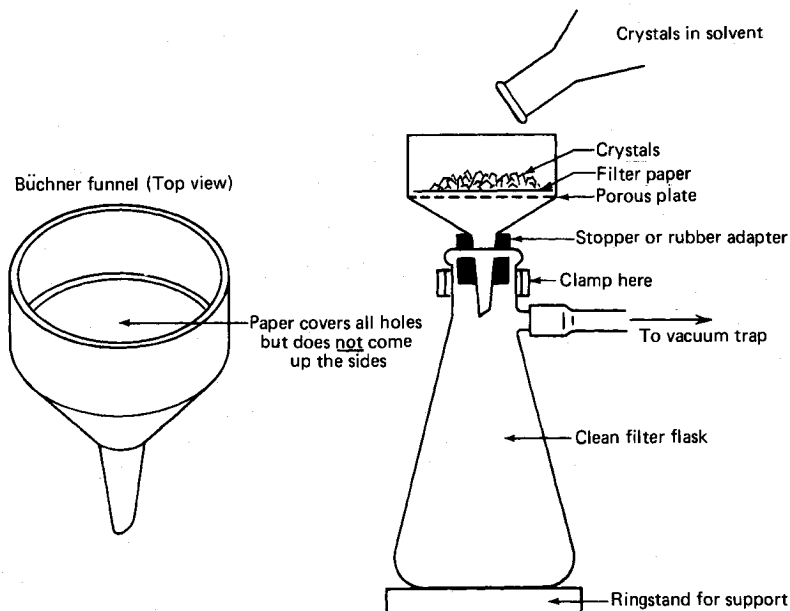

Fig. 46 The Büchner funnel at home and at work.
The **Büchner funnel** (Fig. 46) is used primarily for separating crystals of product from the liquid above them. If you have been *boiling your recrystallization solvents dry*, you should be *horsewhipped* and forced to reread these sections on recrystallization!
1. Get a piece of filter paper large enough to cover all the holes in the bottom plate, yet *not* curl up the sides of the funnel. It is placed *flat* on the plate (Fig. 46).